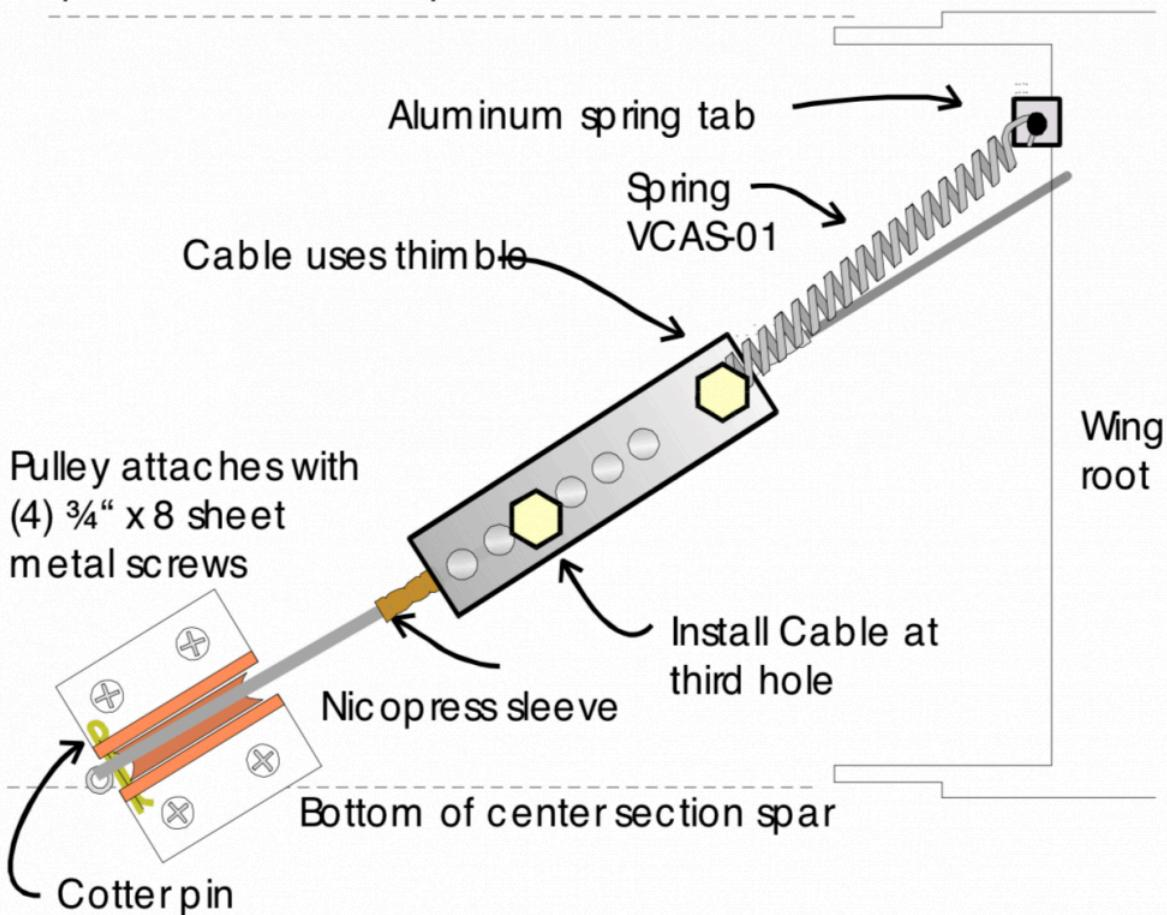

Figure 10-8. Wing Root Rudder Cable Assembly
Position your pulley so that the cable comes through the firewall, around the pulley, and straight towards the wing conduit. Move the pulley around to achieve best alignment. When you are satisfied with the pulley position, attach the fixture to the firewall with (4) 3/4 x #8 sheet metal screws. Install the small cotter pin as shown in figure 10-8 to keep the cable from jumping track.
Have a partner hold the rudder in its neutral position. Pull the cable in the wing taught and mark it where it exits the wing root. Now pull the cable and allow the rudder to operate so your mark is away from the wing root. Install a Nicopress sleeve and thimble so that it is inside the mark by at least a 1/4". Cut off the excess cable and push the rudder back to its neutral position and tape the rudder here so it wont move. Install the rudder adjuster on the Nicopress thimble coming out of the wing as shown in figure 10-8.